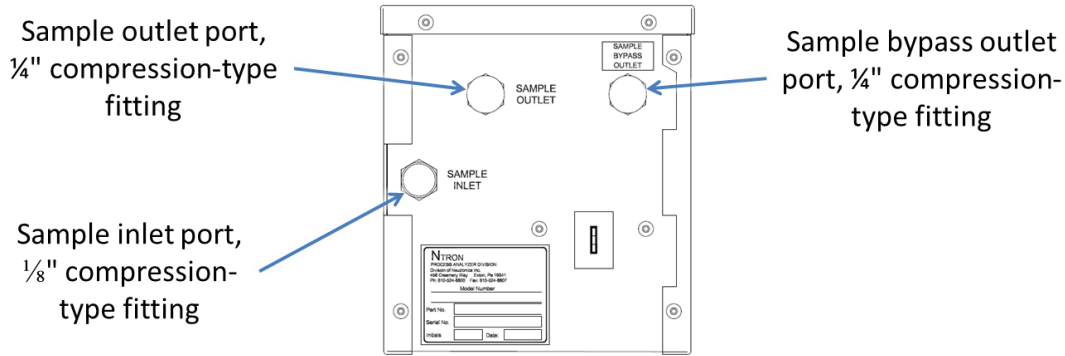

Fig. 4, Front view
The sample inlet port is a 1/8" tube compression bulkhead fitting in the RSM chassis for pneumatic interfacing with the measured process (see Figure 4). It is the single sample gas inlet to the RSM.
The sample outlet port is a 1/4" tube compression bulkhead fitting in the RSM chassis (see Figure 4). It is the low volume exhaust line, supplied by the flow-controlled sensor stream in the RSM. It should be connected to a suitable vent location.
The sample outlet port is a 1/4" tube compression bulkhead fitting in the RSM chassis (see Figure 4). It is the high volume exhaust line, supplied by the bypass stream in the RSM. It should be connected to a suitable vent location.
Connect the sample gas inlet tubing from the process to the $\frac{1}{8}$ " compression bulkhead fitting marked "SAMPLE INLET" (see Figure 4).
- ▶ Locate the sample inlet tubing connection on the chassis (see Figure 4).
Connect the sample gas outlet tubing to the $\frac{1}{4}$ " compression bulkhead fitting marked "SAMPLE OUTLET" (see Figure 4).
- ▶ Locate the sample outlet tubing connection on the chassis (see Figure 4).